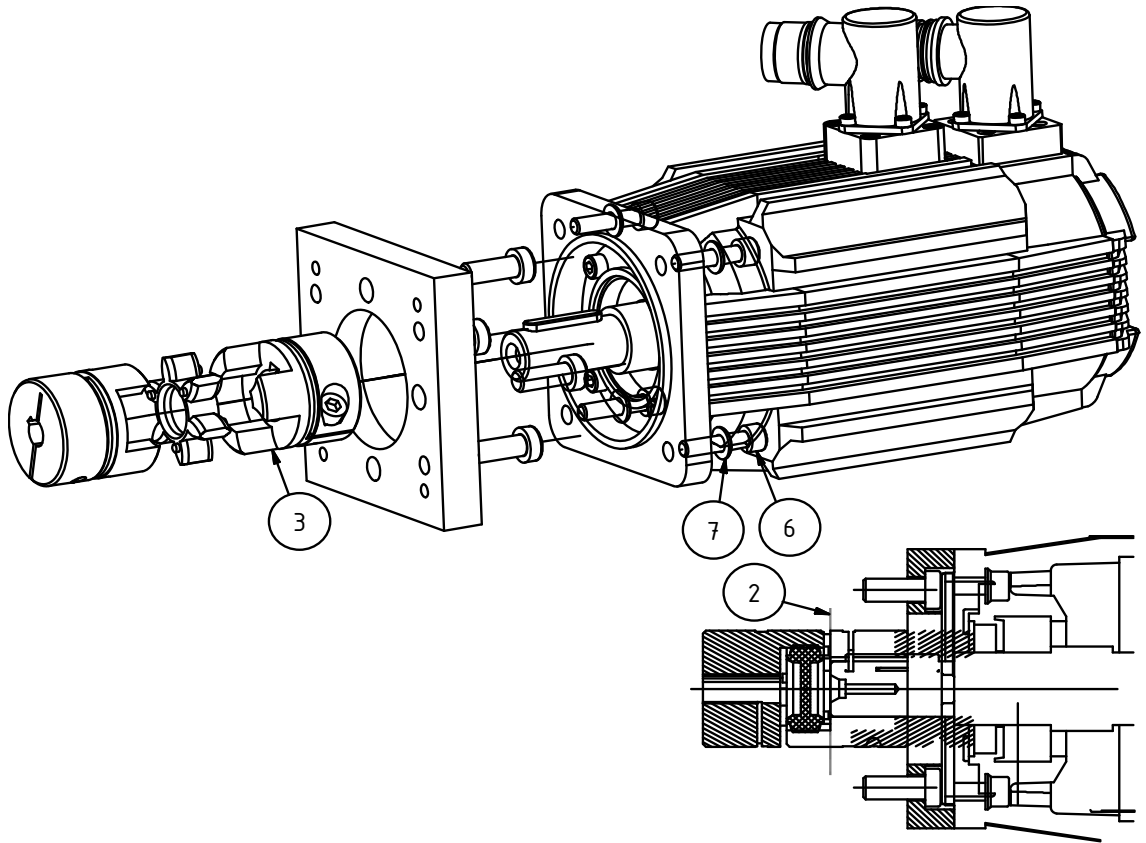

Figure 12: Motor/ gear assembly ETH032 ... ETH080 inline
- ◆ Loosen screws (please refer to Figure 12: Motor/ gear assembly ETH032 ... ETH080 inline).
- ◆ Equip screw with washer and tighten (please refer to Figure 12: Motor/ gear assembly ETH032 ... ETH080 inline Pos.6 , Pos. 7).